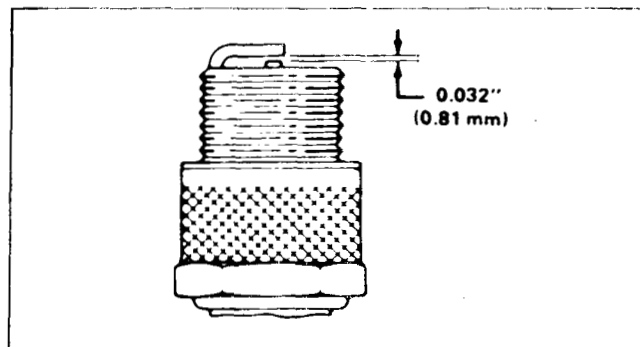

Figure 14
3. Set air gap at 0.81 mm (0.032") as shown in Figure 14. Install correctly gapped spark plug and gasket seal. Tighten plug firmly.